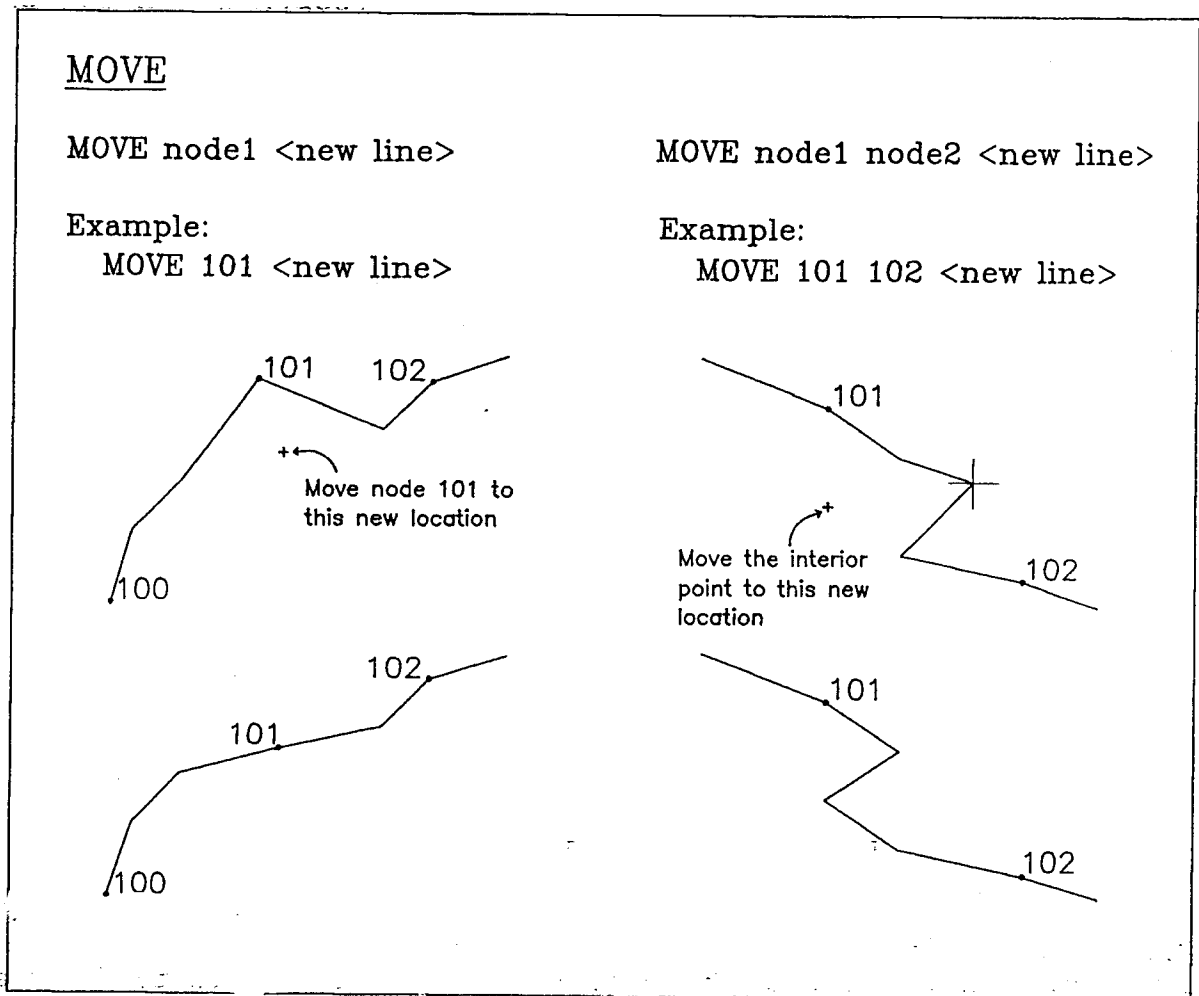

Figure 6. The MOVE Command
To move a node (node 1 only) or to move one or more interior points on an arc between node1 and node2. User selects point to be moved with cursor, then selects new location for that point. Cursor control characters for existing (E) and last point (L) as before. See Figure 6.